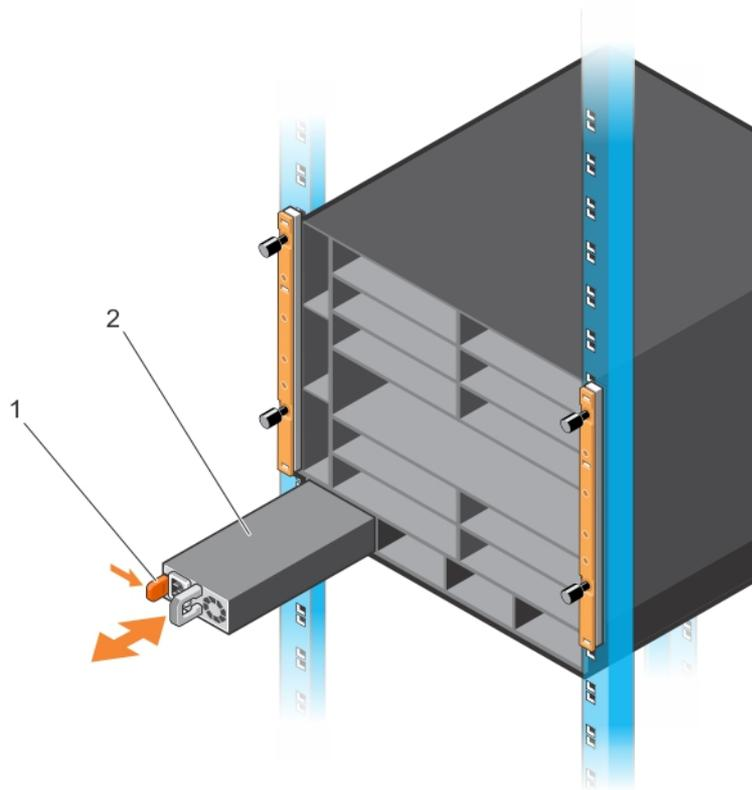

Figure 24. Installing the First Power Supply
- 2 Slide the first power supply into the left-most power supply slot (PSU 0) until the latch (item 1 in Figure 24) snaps in place. For the location of PSU slot numbers, see C9010 Hardware Description.